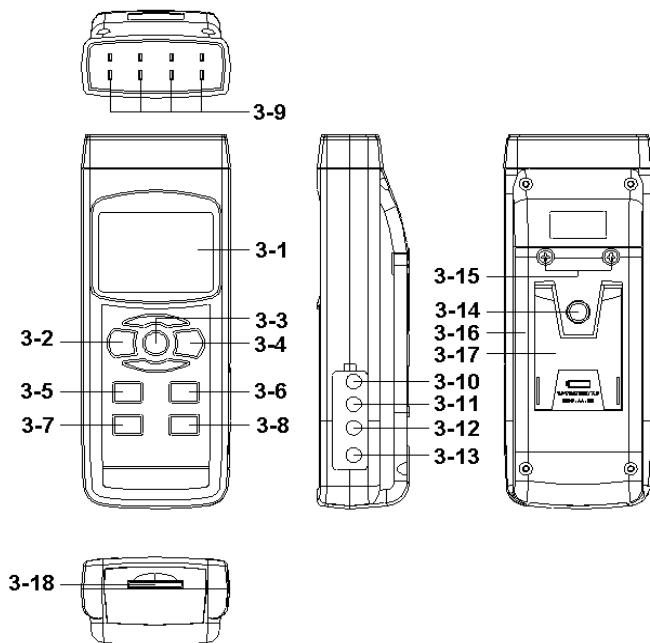

Fig. 1
1) Power on the meter by pressing the " Power button " (3-2, Fig. 1) once.
3) Insert the Type K probes into the " T1, T2, T3, T4 input socket " (3-9, Fig. 1).
All the measuring procedures are same as the Type K (section 4-1) except to select the Temp. Sensor type to " Type J/K/T/E/R/S " by pressing the " Type Button " (3-5, Fig. 1) once in sequence until the up LCD display show " J/T/E/R/S " indicator.
- 1) All the measuring procedures are same as the Type K (section 4-1) except to select the Temp. Sensor type to " Pt " by pressing the " Type Button " (3-5, Fig. 1) once in sequence until the right down LCD display show " Pt " text as :
PT1 input socket (3-10, Fig. 1)
PT2 input socket (3-11, Fig. 1)
Pressing the " T1-T2 button " (3-6, Fig. 1), display will show the difference temperature value between T1, T2 (PT1, PT2) as :
During the measurement, press the " Hold Button " (3-3, Fig. 1) once will hold the measured value & the LCD will display a " HOLD " symbol.
1) The data record function records the maximum and minimum readings. Press the " REC Button " (3-4, Fig. 1) once to start the Data Record function and there will be a " REC " symbol on the display.
a) Press the " REC Button " (3-4, Fig. 1) once, the " REC MAX " symbol along with the maximum value will appear on the display.
If intend to delete the maximum value, just press the " Hold Button " (3-3, Fig. 1) once, the display will show the " REC " symbol only & execute the memory function continuously.
b) Press the " REC Button " (3-4, Fig. 1) again, the " REC MIN " symbol along with the minimum value will appear on the display.
If intend to delete the minimum value, just press the " Hold Button " (3-3, Fig. 1) once, the display will show the " REC " symbol only & execute the memory function continuously.
After power ON, the " LCD Backlight " will light automatically. During the measurement, press the " Backlight Button " (3-2, Fig. 1) once will turn OFF the " LCD Backlight " .
Prepare a " SD memory card " (1 GB to 16 GB, optional), insert the SD card into the " SD card socket " (3-18, Fig. 1). The front panel of the SD card should face against the down case.
Press the " REC Button (3-4, Fig. 1) once , the LCD will show the text " REC ", then press the " Logger Button " (3-8, Fig. 1), the " REC " will flashing and beeper will sound, at the same time the measuring data along the time information will be saved into the memory circuit.
During execute the Datalogger function , if press the " Logger Button " (3-8, Fig. 1) once will pause the Datalogger function (stop to save the measuring data into the memory circuit temporally). In the same time the text of " REC " will stop flashing.
If press the " Logger Button " (3-8, Fig. 1) once again will execute the Datalogger again, the text of " REC " will flashing .
During pause the Datalogger, press the " REC Button " (3-4, Fig. 1) continuously at least two seconds, the " REC " indicator will be disappeared and finish the Datalogger.
Press the " REC Button " (3-4, Fig. 1) once , the LCD will show the text " REC " , then press the " Logger Button " (3-8, Fig. 1) once, the " REC " will flashing once and Beeper will sound once, at the same time the measuring data along the time information and the Position no. will be saved into the memory circuit.
** During execute the Manual Datalogger, use the " ▲ Button " (3-5, Fig. 1) or " ▼ Button " (3-6, Fig. 1) to set the measuring position (1 to 99, for example room 1 to room 99) to identify the measurement location.*
Press the " REC Button " (3-4, Fig. 1) continuously at least two seconds, the " REC " indication will be disappeared and finish the Datalogger.
During the normal measurement (not execute the Datalogger), If press " Time check Button " (3-7, Fig. 1) once , the lower LCD display will present the time information of Year/Month, Date/Hour, Minute/Second.
During the normal measurement (not execute the Datalogger), If press " Sampling Button " (3-8, Fig. 1) once , the lower LCD display will present the Sampling time information in second unit.